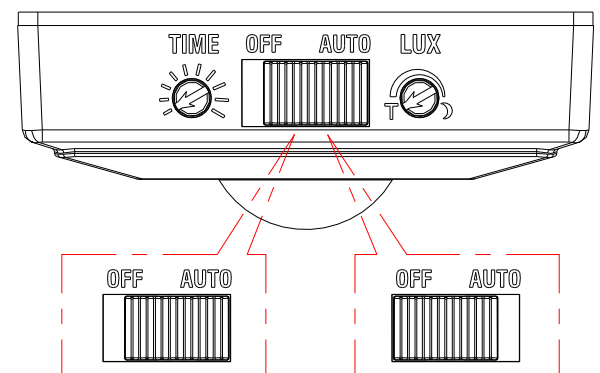

FIGURE 7
(1) TEST MODE
- Turn the Lux control and the Time control counter-clockwise to the edge-the TEST position (FIGURE 7)